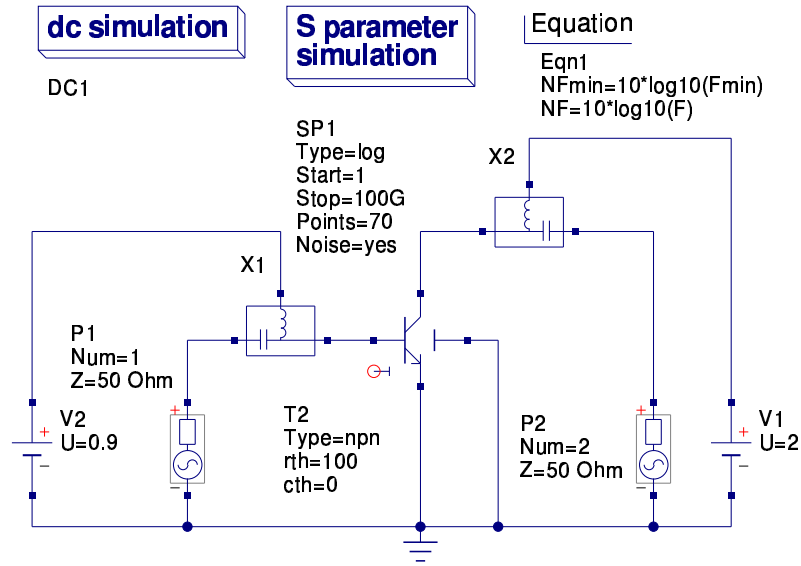

Figure 1.10: S-parameter simulation schematic for HICUM/L2 v2.11 model
**S-parameter simulation.** In the figures 1.10 and 1.11 a two-port S-parameter simulation schematic (including noise) as well as the results are shown. The four S-parameters are displayed in two Polar-Smith combi diagrams. The noise figure as well as the minimal noise figure are displayed in a logarithmic Cartesian diagram.